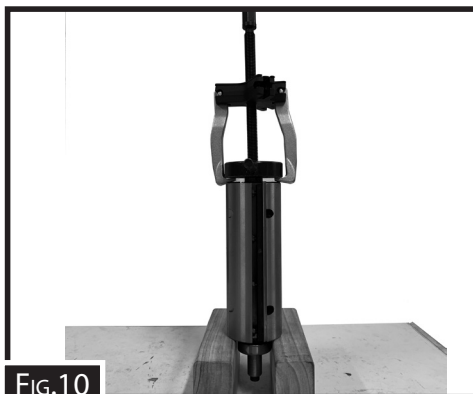

FIG.10
14. Remove bearing blocks off each end using bearing/gear puller (take note of which side each comes off). (Fig. 10)